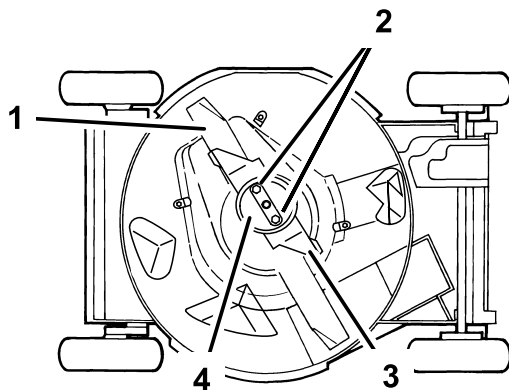

Figure 35
4. Tip the lawn mower onto its **right** side (Figure 35).
Grasp the end of the blade using a rag or a thickly padded glove. Remove the blade nuts, the anti-scalp cup, the accelerator, and the blade (Figure 35).
5. Remove 2 blade nuts, the anti-scalp cup, the accelerator, and the blade (Figure 35).